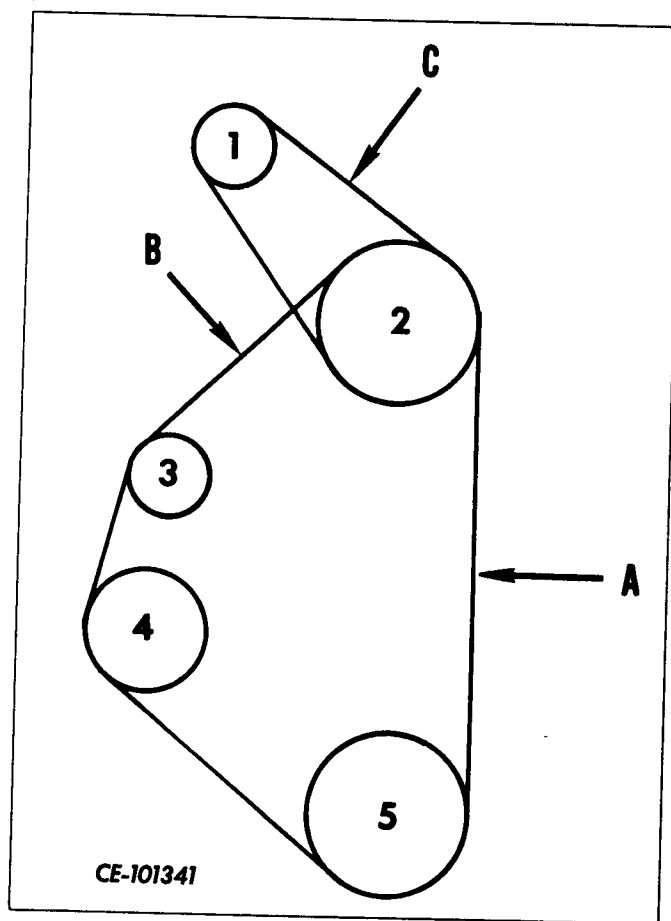

Figure 2-58
Whenever possible, fan and water pump belts tensions should be checked at a point (A, Fig. 2-58) midway between the vibration damper (5) and fan pulley (2).
In case this point cannot be utilized, it is permissible to use alternate point (B, Fig. 2-58) midway between the fan pulley (2) and idler pulley (3). It is permissible to check tension of a single belt only.
The generator belt tension should be checked at a point (C, Fig. 2-58) midway between generator pulley (1) and fan pulley (2).